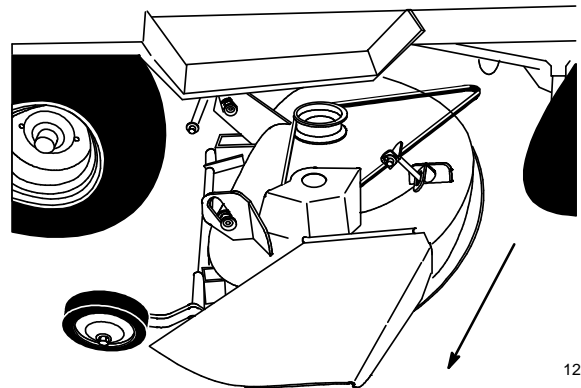

Figure 17
8. Turn the front wheels fully to the left and raise attachment lift lever all the way to the latched position; refer to tractor Operator's Manual. Slide the mower out from under the chassis to the the right side (Fig. 17)